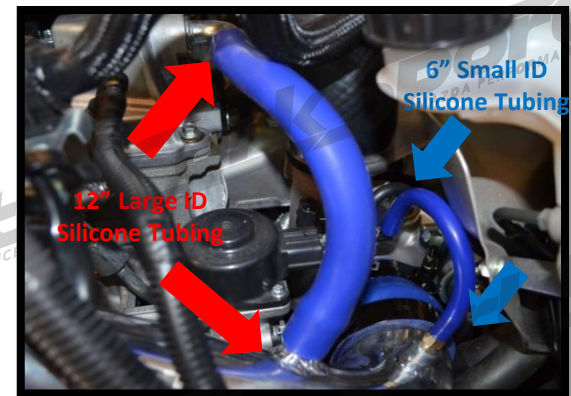

Figure 4c
c) Connect the 6" small ID silicone tubing to the boost control solenoid (shown **blue arrows** in **Figure 4c**).
d) Connect the 12" long large ID Silicone tubing from the turbo inlet pipe to the valve cover. Make sure to route the hose so it doesn't interfere with wiring, pinch or kink. Shown with **red arrows** in **Figure 4c** after full install.